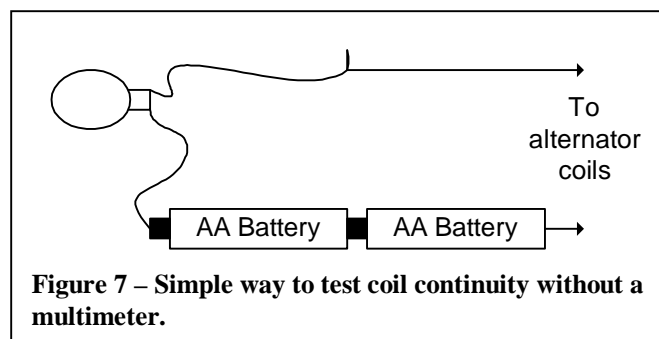

Figure 7 – Simple way to test coil continuity without a multimeter.
1. **Coils Lack Continuity.** Make sure the coils are connected well. If you have a multimeter that can test continuity or has an Ohms test, then hook one end of each alternator lead to the multimeter. A continuity check should pass. A resistance check should show approximately 24 to 32 ohms for the four coils, or about 6 to 8 ohms for a single coil. If the resistance check shows more than 40 ohms, or shows infinite resistance, then your coils are not properly connected. If you do not have a multimeter, check continuity by using the supplied LED and two 1.5 volt AA batteries. Connect the coil leads to the batteries and LED in series as shown in Figure 7. The LED should light (assuming the LED is good as shown in (1) above and the batteries are known to be good).